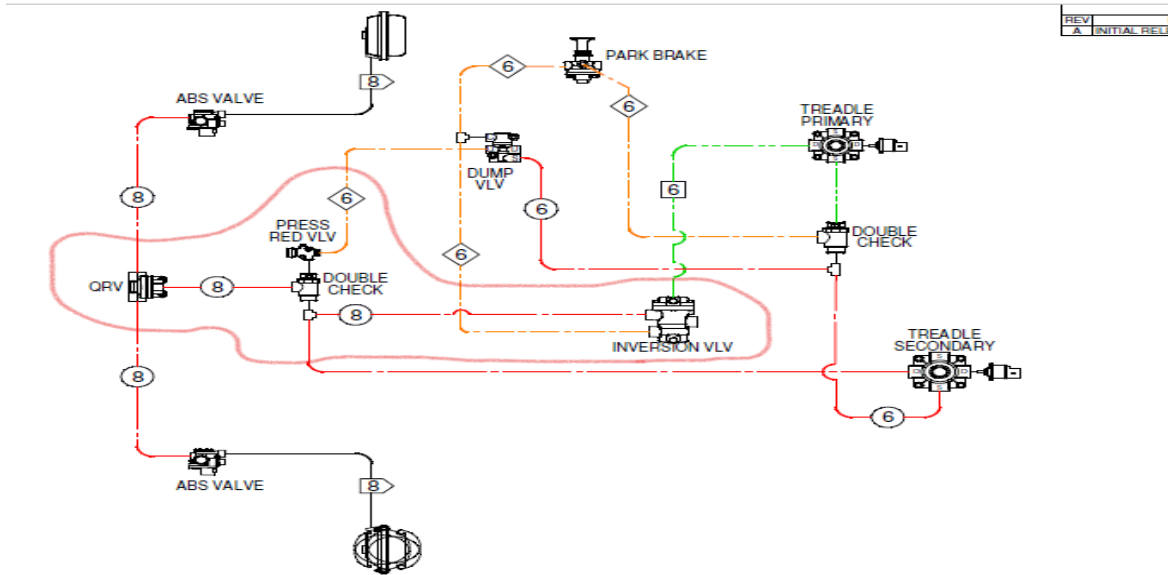
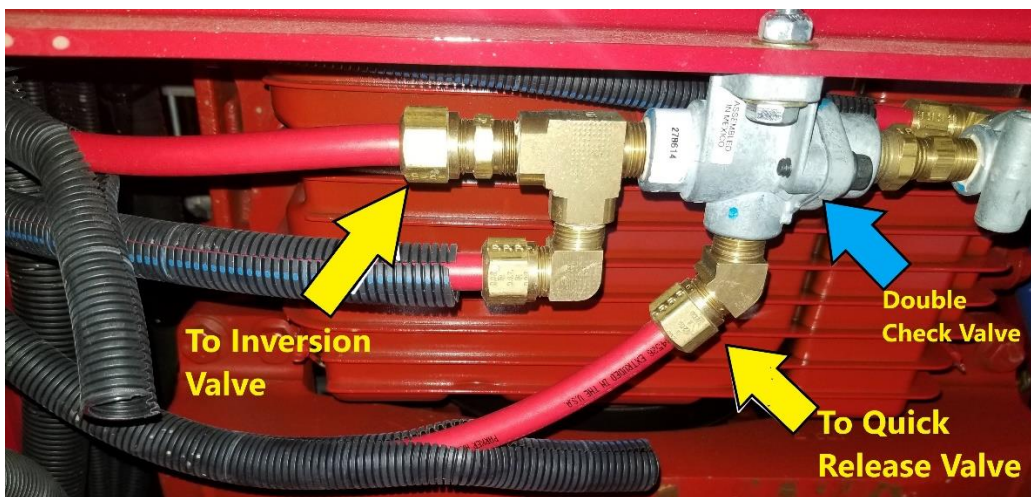

Figure 3.1 Correct Plumbing
Figure 3.2 Correct Plumbing
2) Inspect plumbing under front of truck to verify it is plumbed according to the Figure 3.1 and Figure 3.2
- 3) If the front ABS modulators are chuffing air as described in step 1 and the plumbing is correct in accordance with step 2, figures 3.1 and 3.2, then the front park brake system is plumbed properly, and no correction is needed. Do not proceed to step 4.
- 4) If the front ABS modulators are not chuffing air as described in step 1 and the plumbing does not match the diagram in Figure 3.1 or the picture in Figure 3.2, then the plumbing will need to be corrected. Proceed to step 5.
- a. Switch the 2 size 8 lines at the double check valve as shown in Figure 3.2.
- b. Trace the lines and ensure they are plumbed in accordance with Figure 3.1.